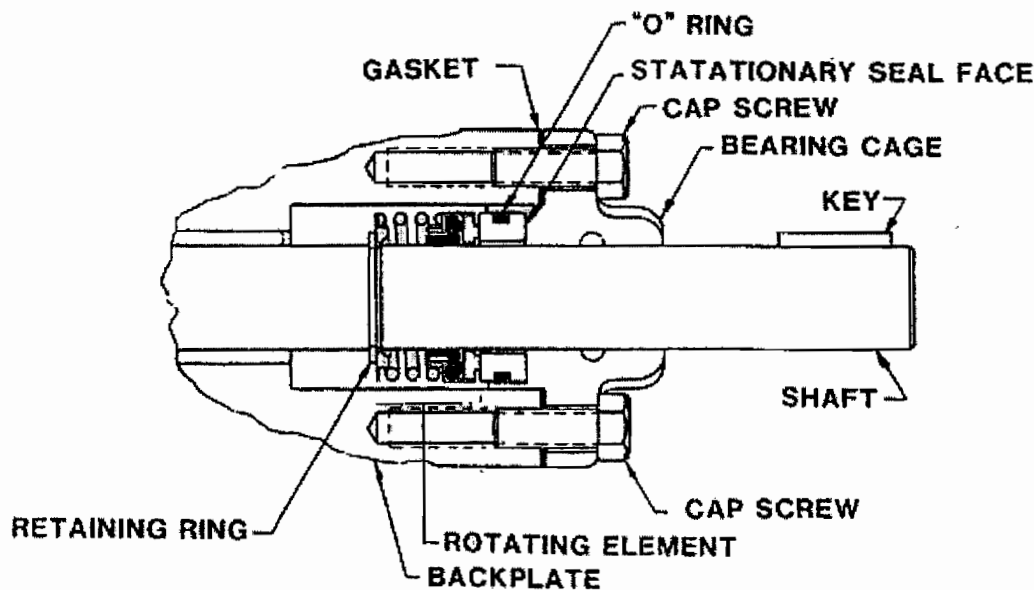

Figure 4-6. Mechanical Seal (Fuel Oil Transfer Pump).
- (3) Close all suction and discharge valves.
- (4) Break swivel fittings on flex hose on suction and discharge sides of pump.
- (5) Remove pump mounting bolts.
- (6) Remove pump.
- (7) Remove piping from faulty pump.
- (8) Mount new pump using mounting bolts and align with the motor coupling.
- (9) Install piping on new pump.
- (10) Install shaft guards with mounting bolts.
- (11) Open suction and discharge valves.
- (12) Turn on power and test for normal operation by observing pressure gauge on discharge side of pump.
c. Repair (Mechanical Seal, Refer to Figure 4-6)